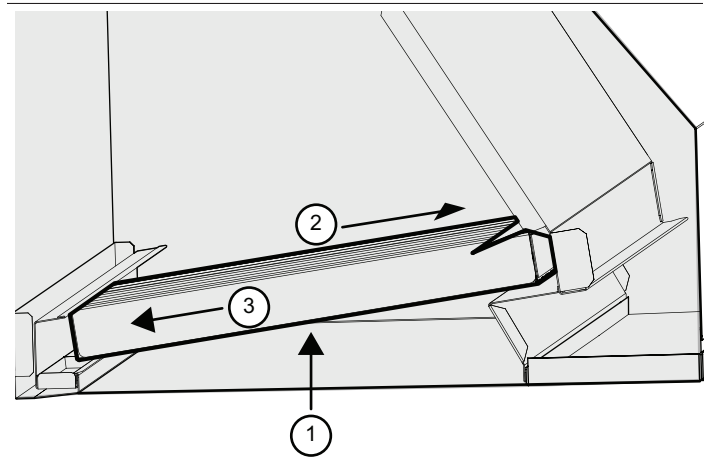

Figure 30: Filters
- b) **Filters** — start with inserting the smaller, 8" filter in the middle and work out to the ends. Push up, slide toward the front of the hood, then push in at the bottom (*Figure 30*).